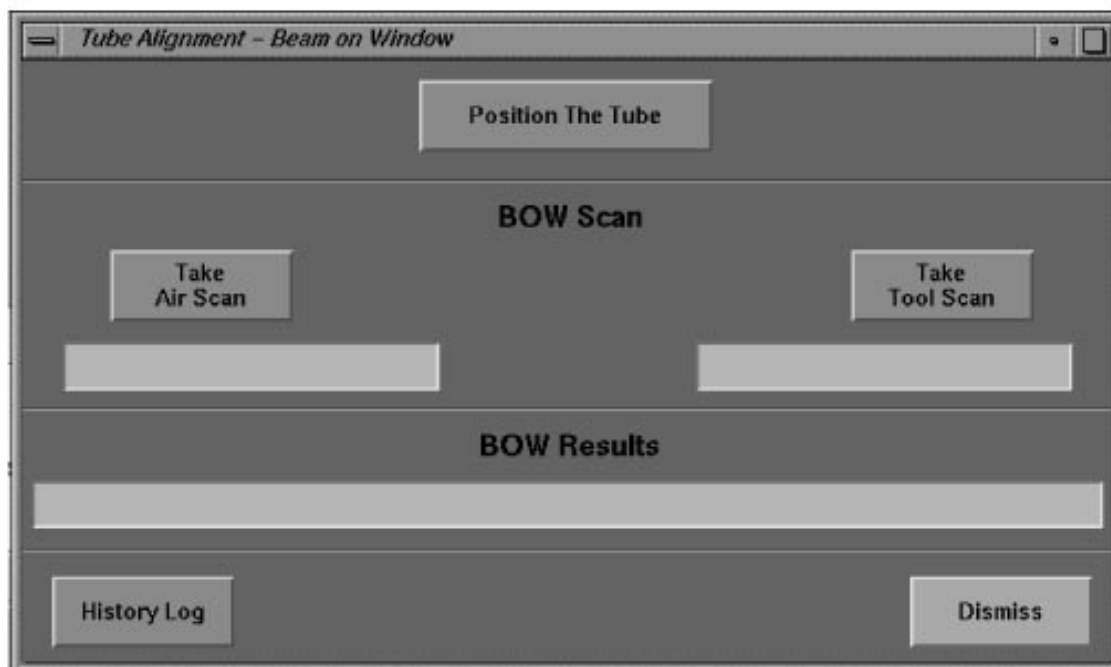

Figure 3-12 ADVANCED BOW SCREEN
- 4.) Select BOW ALIGNMENT. Refer to Figure 3-12.